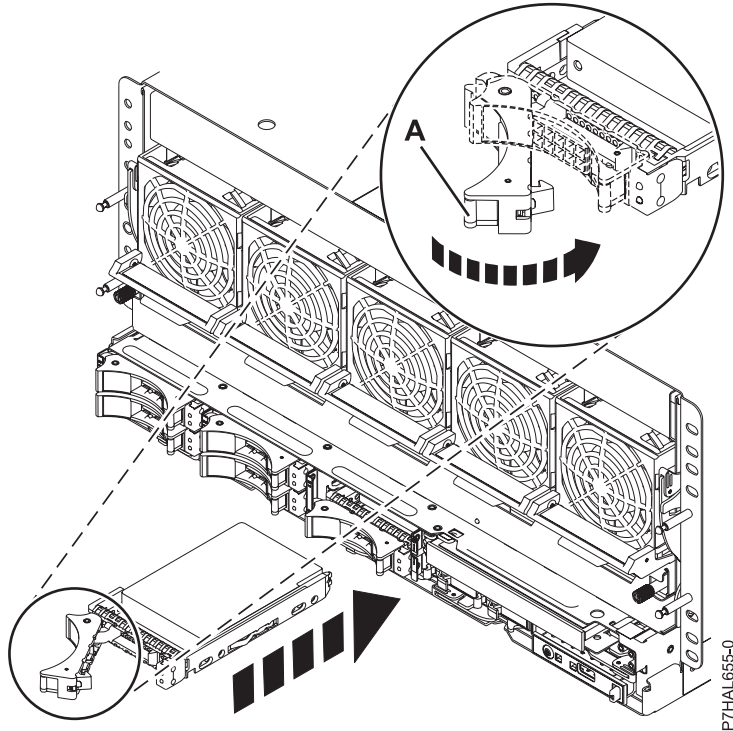

Figure 6. Installing the drive in the system
7. When the identify LED flashes, slide the drive all the way into the system or an expansion unit, and push the drive handle (**A**) in until it locks. See Figure 6 on page 14 showing installing a drive in the system.